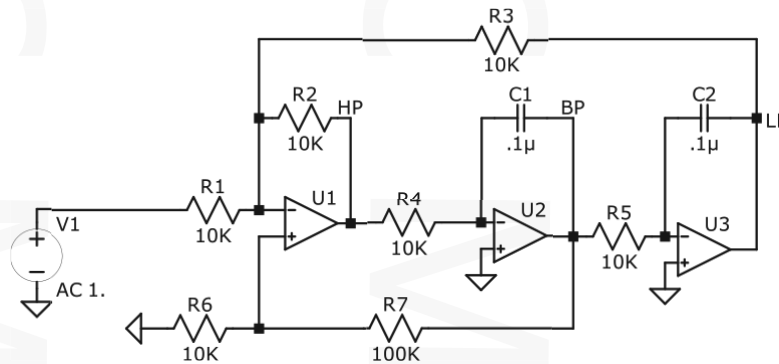

Figure5: A filter circuit (Question18))
- 18 Figure 5 shows a filter circuit using opamps. Assume that the opamp model is described as a subcircuit in a file “opamp.sub”. The interface nodes for the opamp subcircuit are in the order: Inverting input, Non-inverting input and Output. Assign node numbers to the circuit given and develop the SPICE circuit file for obtaining the frequency response characteristics from 1 Hz to 10 MHz. A suitable number of steps per decade may be specified. Use 1 V as the amplitude of the exciting AC signal. It may be assumed that the opamp subcircuit need no special parameters to be specified.